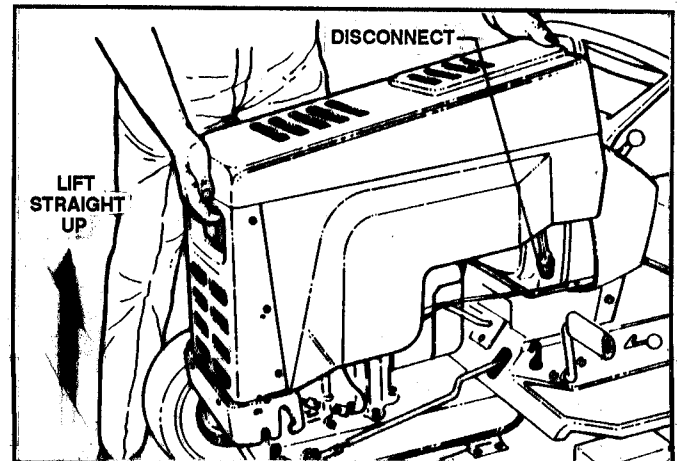

FIGURE 5.6-A
3. With hood level, lift straight up to clear pivot pins at front. See Figure 5.6-A.